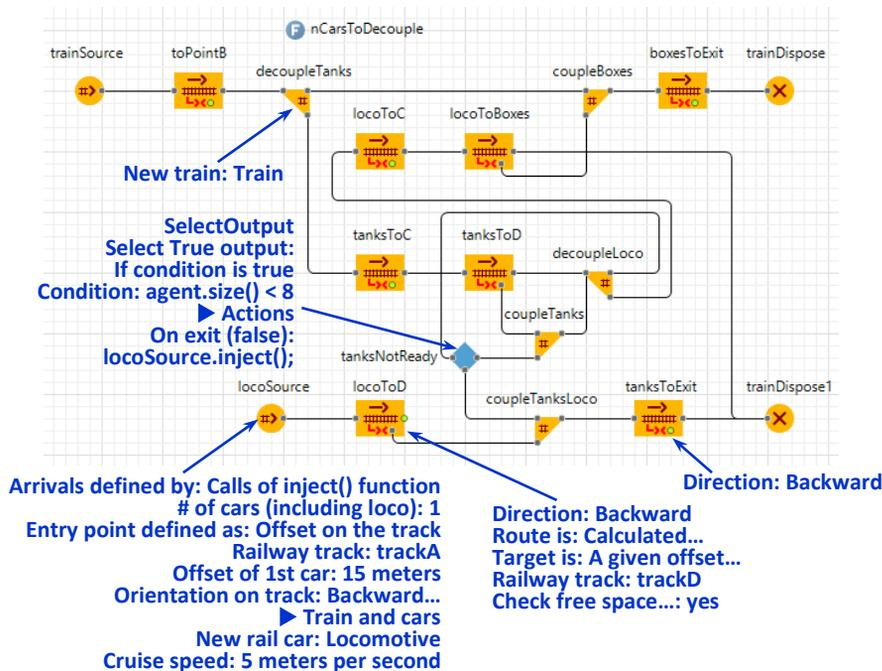

Figure 9.24 The final version of the classification flowchart
27. Modify the flowchart as shown in Figure 9.24.